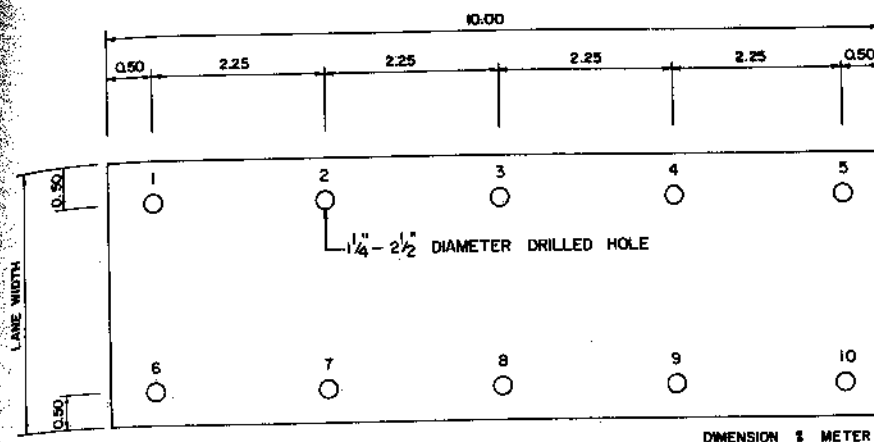

FIGURE 1 PLAN OF DRILLING FOR CEMENT MORTAR COMPRESSION ALONG THE PUMPING JOINT
- 1.2.2 EACH REPAIRED CONCRETE SLAB SHOULD BE MARKED AS THE DRILLING POSITION IN ORDER TO COMPRESS SLURRY CEMENT MORTAR THROUGH, AS SHOWN IN FIGURE 1.
- 1.3.1 COMPRESS THE SLURRY CEMENT MORTAR INTO THE FIRST HOLE (SHOWN IN FIGURE 1). GENTLY DO IT AT FIRST SO THAT THE CEMENT CAN FLOW FREELY AND REGULARLY AND THEN INCREASINGLY COMPRESS THE CEMENT TILL THE MACHINE CAN NO LONGER PRESS. WHILE COMPRESSING THE SLURRY CEMENT MORTAR INTO THE HOLE NO.1, THERE MAY BE SOME SLURRY CEMENT MORTAR SLIPPED INTO AND FILLED THE HOLES NO.2 OR NO.6 AS IN FIGURE 1. IF SO, CORK OR PLUG THOSE PARTICULAR HOLES AND DO NOT COMPRESS THE SLURRY CEMENT MORTAR INTO THEM.